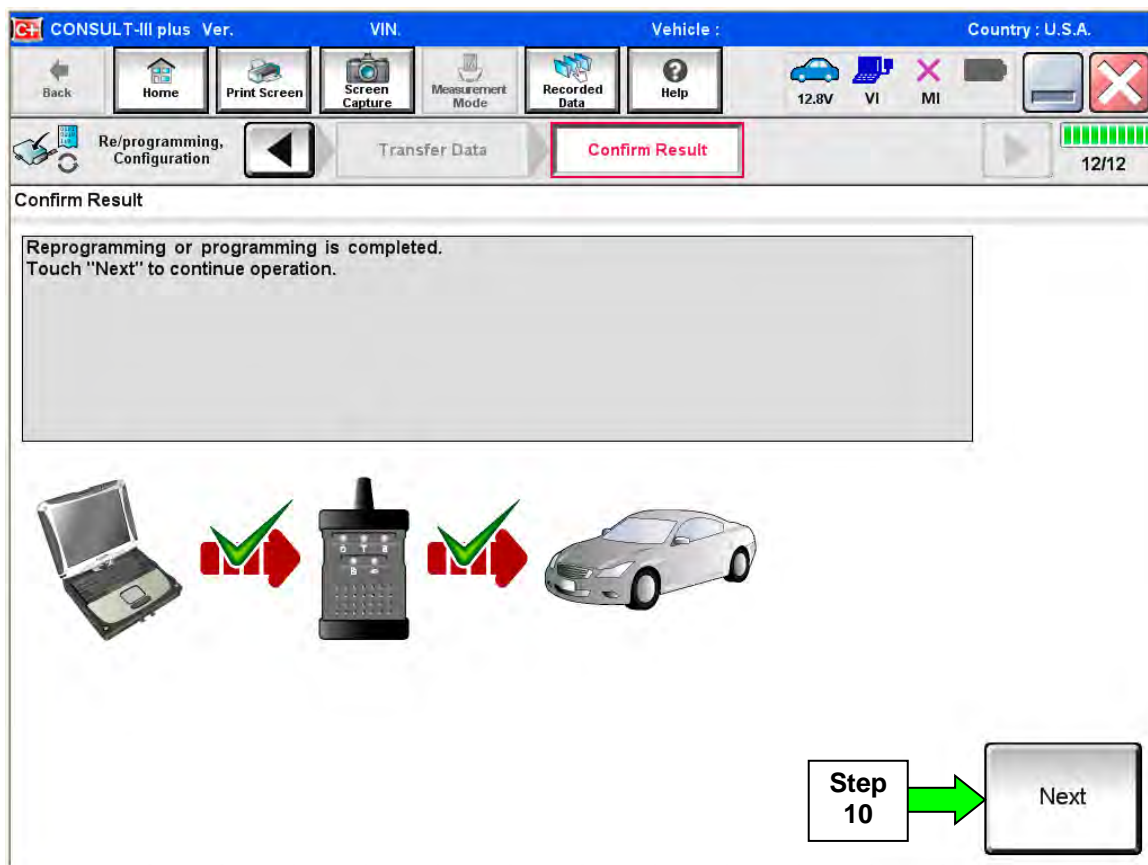

Figure 4B
8. When the screen in Figure 4B displays, reprogramming is complete.
**NOTE:** If the screen in Figure 4B does not display (indicating that reprogramming did not complete), refer to the information on the next page.